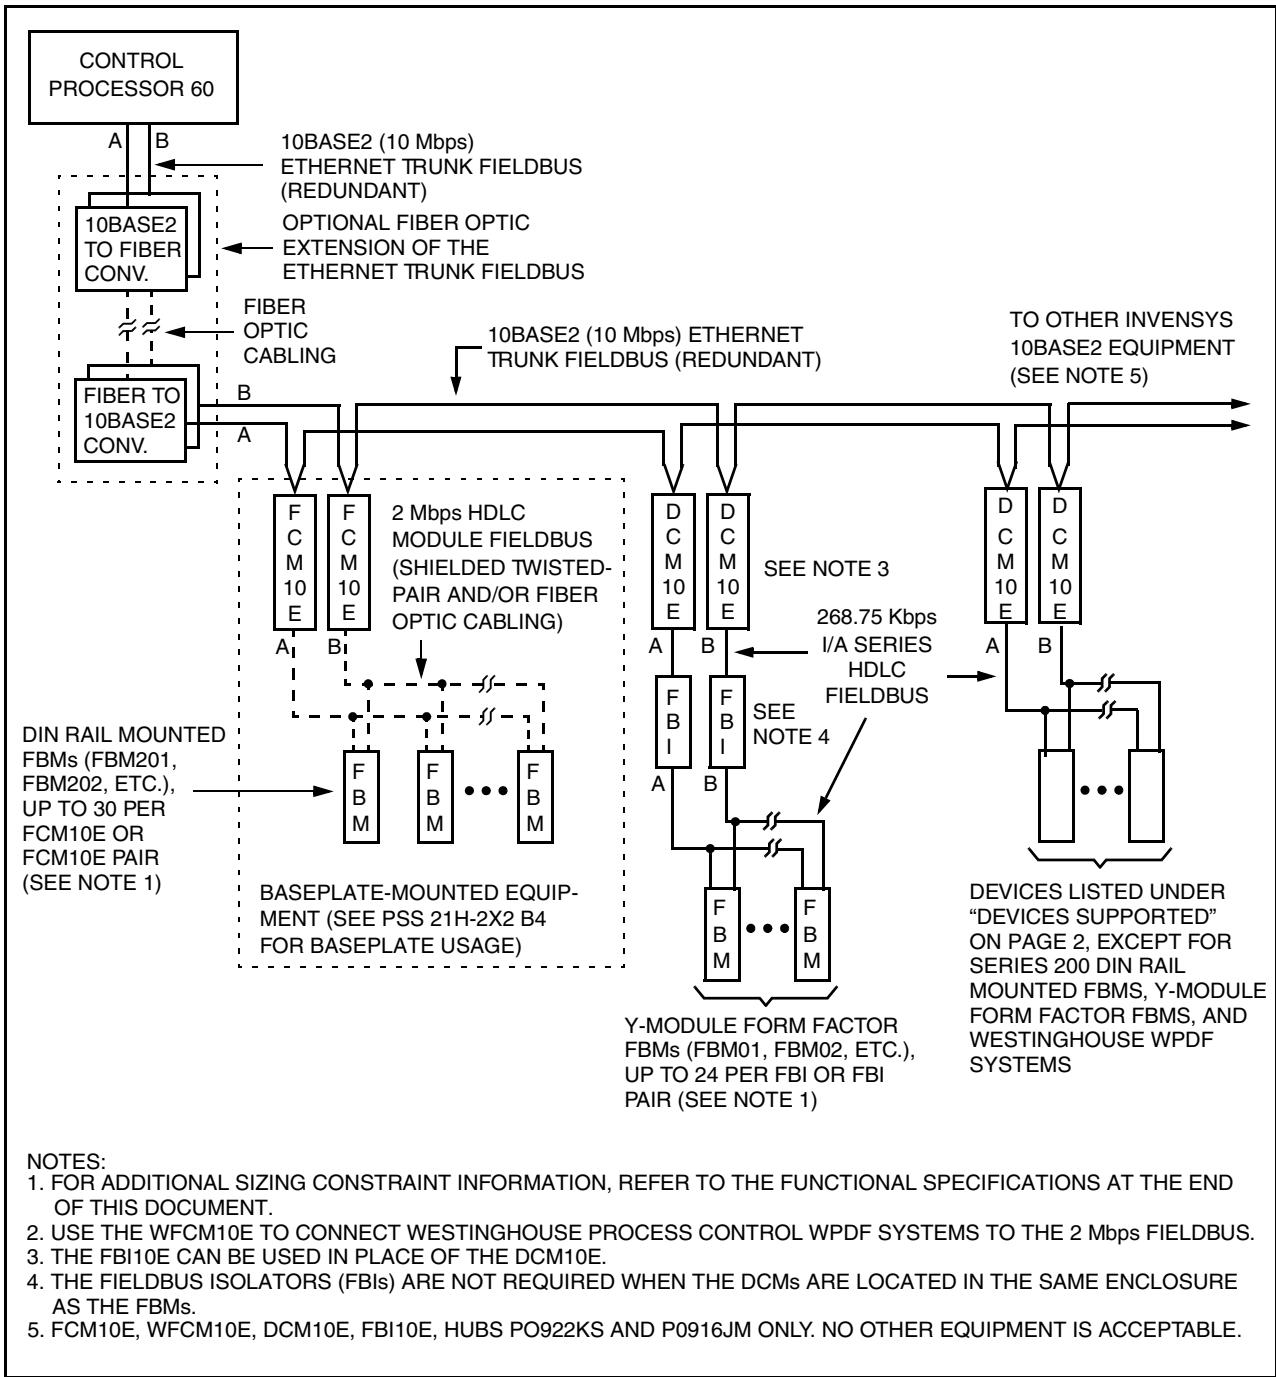
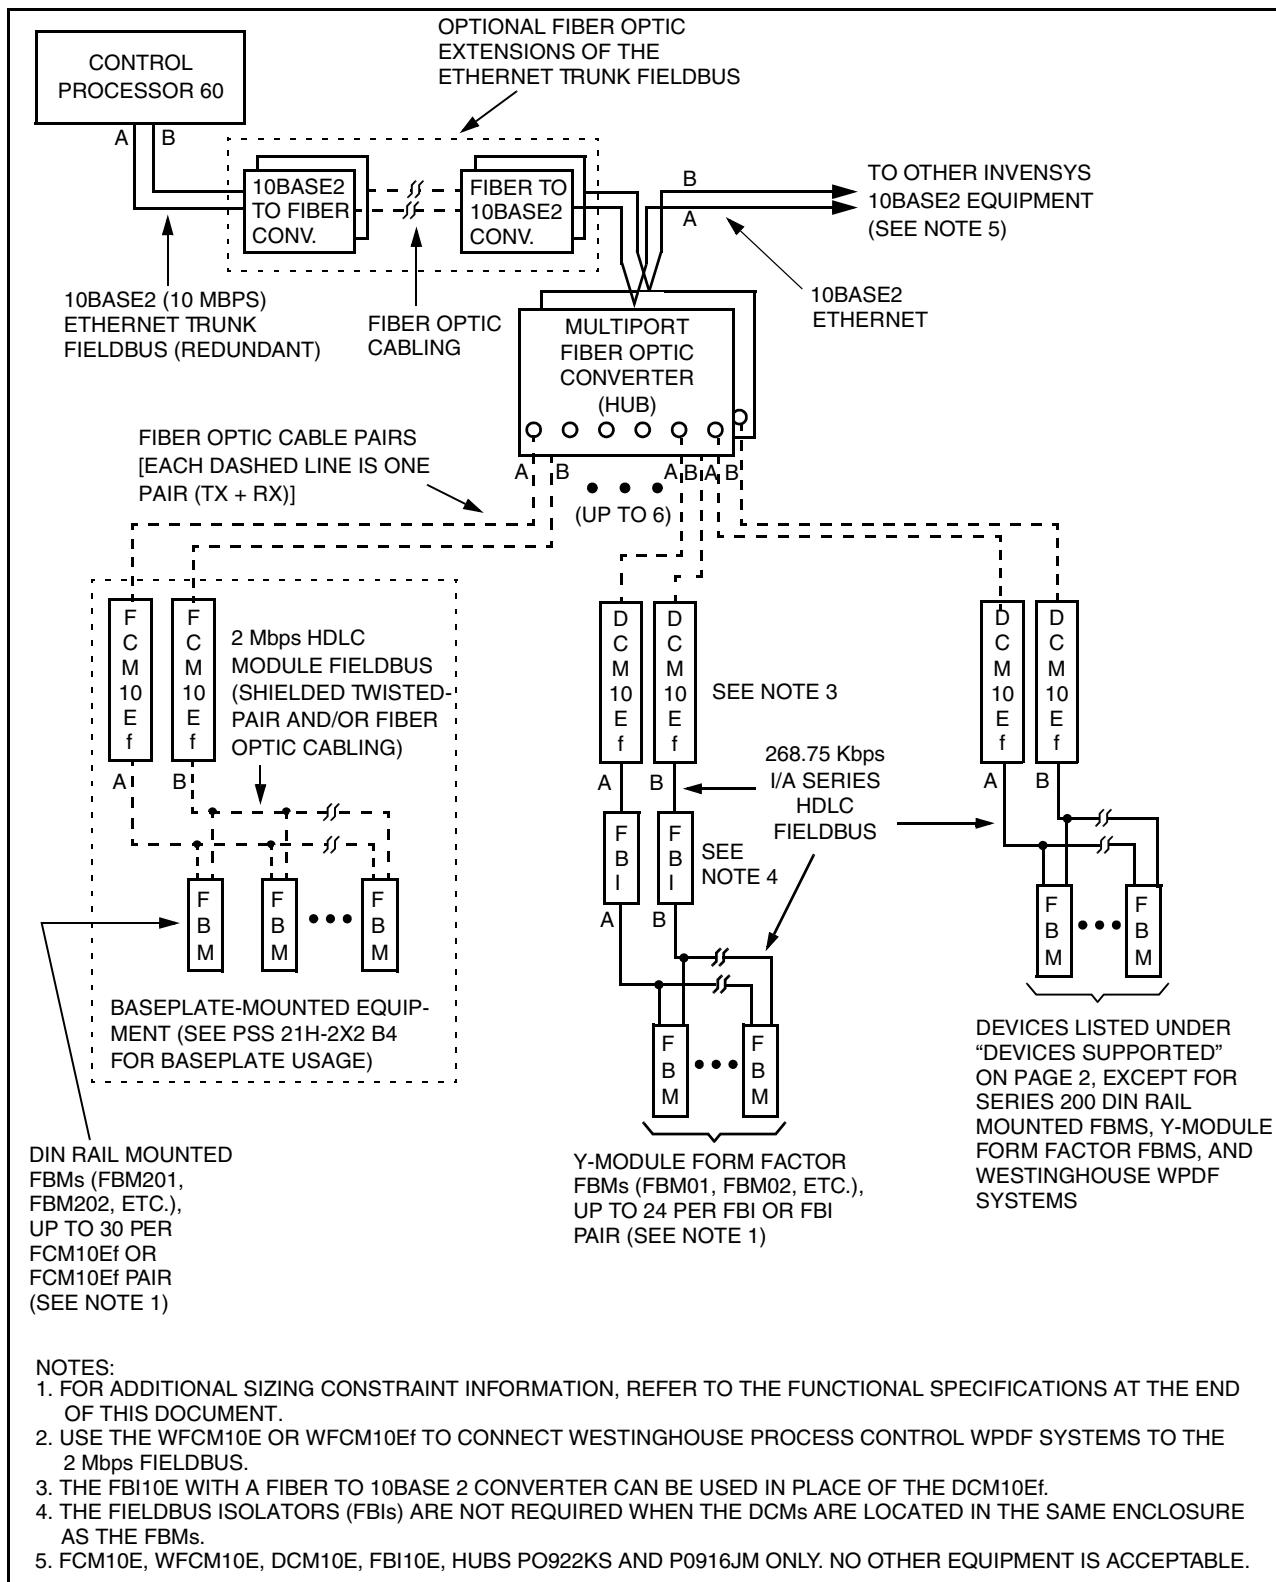

Figure 1. Typical Direct Network Configuration
Figure 2. Typical Active Star Network Configuration
- Direct Network Configuration (Figure 1) – In this configuration, a direct connection is made between the control processor and the FCM(s) and/or DCM10E or FBI10E modules, with the possible option of a fiber optic extension.
- Active Star Network Configuration (Figure 2) – In this configuration, a multiport fiber optic converter (hub) further extends the overall Fieldbus distance, while adding application versatility and security.
- (a) The Ethernet trunk Fieldbus connects between the Control Processor 60 and the FCMs and/or DCM10E or FBI10E modules in the Direct Network Configuration (Figure 1), and between the Control Processor 60 and the hub(s) in the Active Star configuration (Figure 2).